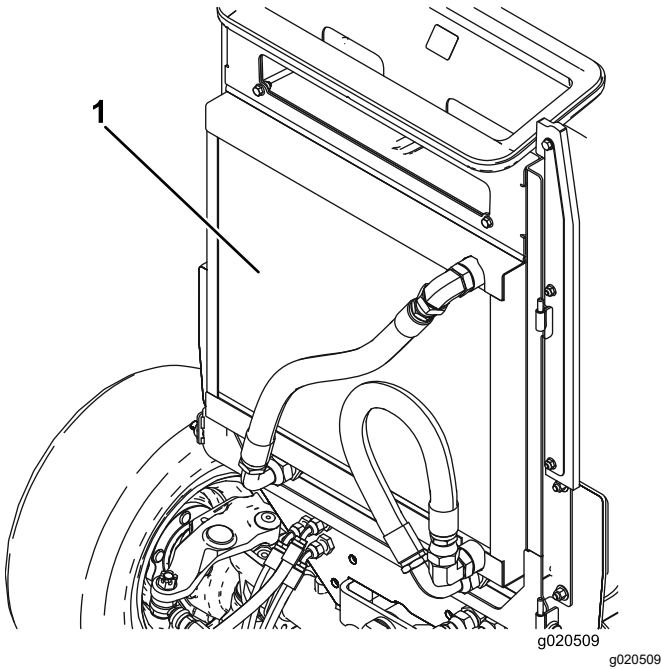

Figure 98
- Clean both sides of the oil cooler/radiator area (Figure 98) thoroughly with compressed air. Start from the front and blow the debris out toward the back. Then clean from the back side and blow toward the front. Repeat the procedure several times until all chaff and debris is removed.